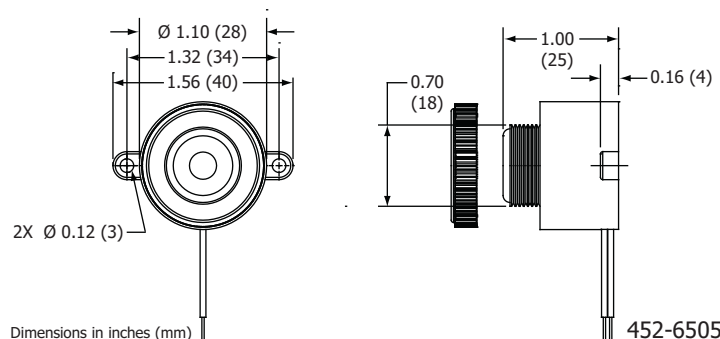

Figure 17 Buzzer Outline and Dimensions
- (1) Fabricate a bracket suitable for supporting the buzzer. See Figure 17 Buzzer Outline and Dimensions.